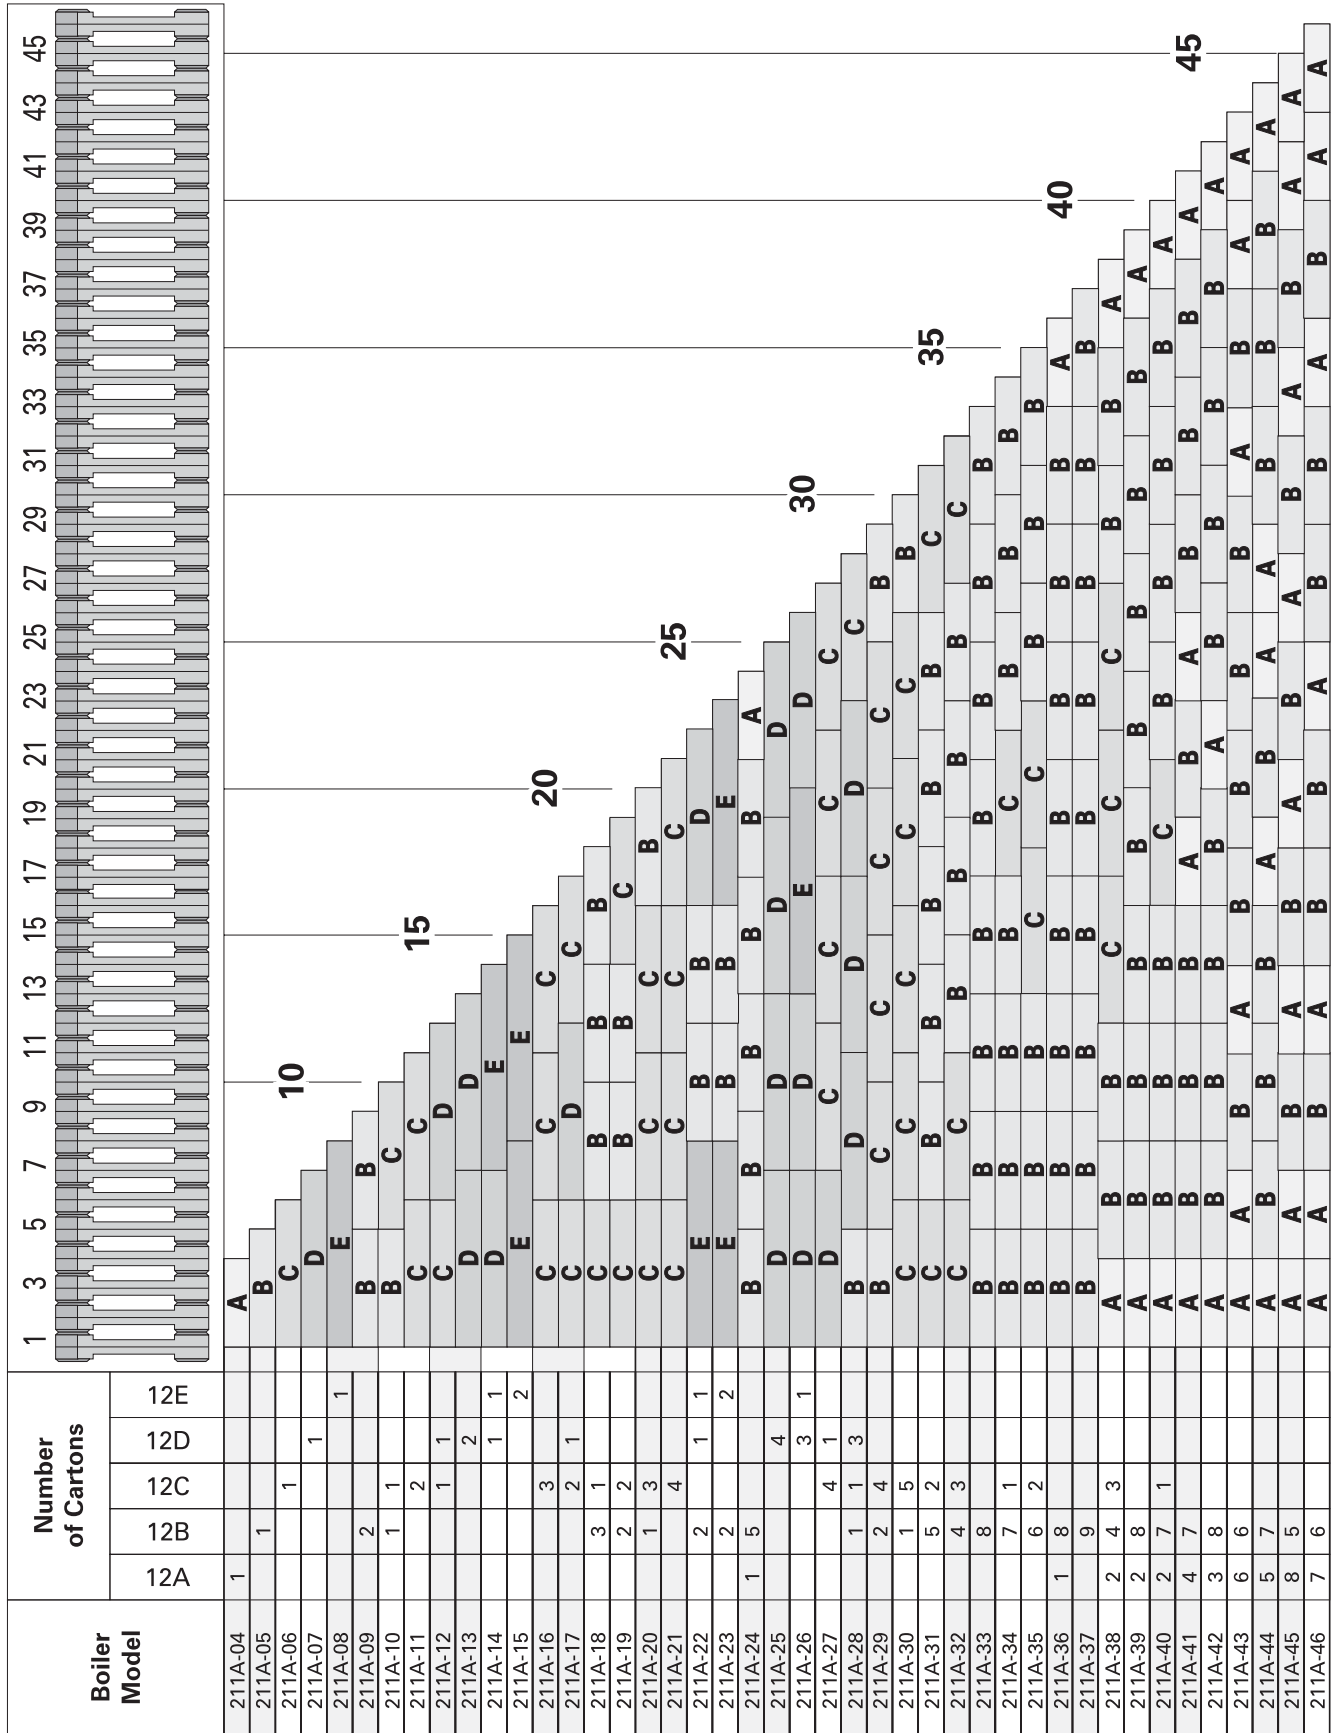

Figure 6.3: Jacket Assembly Sequence - Carton Numbers and Locations
1. Apply the jacket top panels working from left to right (facing front of boiler). Place the panels from the cartons in the sequence given in Figure 6.3.